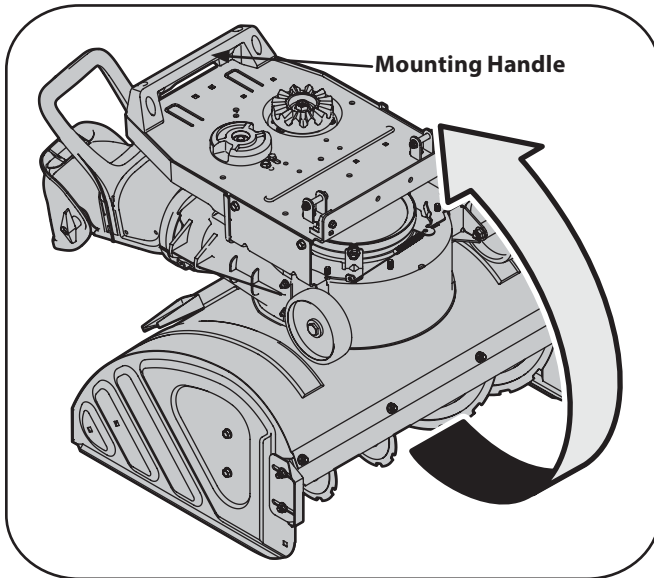

Figure 7-4
- Carefully tip the FLEX™ Snow Thrower Attachment forward onto the front of the auger housing as shown. Use the mounting handle called out in Figure 7-4 to tip this unit forward. NEVER use the chute handle to either tip this unit forward, for lifting or any other reason other than rotating the discharge chute left or right.